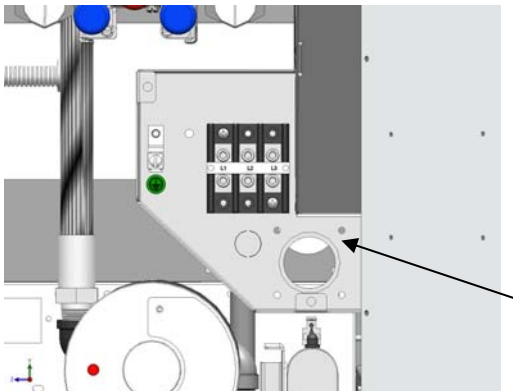

Figure 1.5.3 Wire housing strain relief hole. 2" or 1.75" diameter
3. Referring to figure 1.5.3, Install cable strain relief in housing cutout (1). Attach power cable wires to terminal block (2) per connection diagram on fryer door.